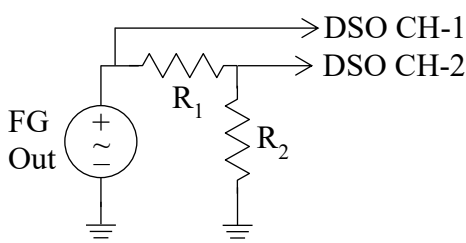

Figure E4a
3. Set up a simple potential divider circuit using two 10 k Ω resistors on the breadboard as shown in Fig. E4a, i.e., take $R_1 = R_2 = 10$ k Ω . Now, connect CH-1 (taken as X) to the FG output and CH-2 (taken as Y) to the potential divider output. Observe the display in the XY mode, measure and plot the result.